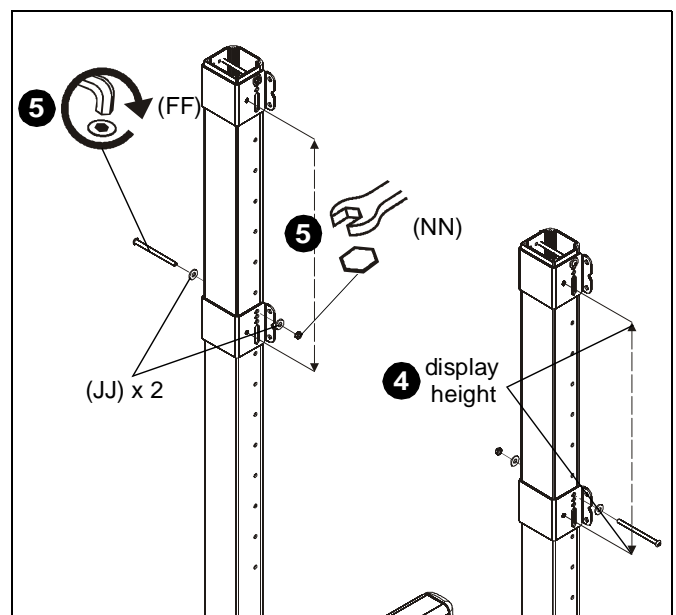

Figure 10
4. Measure one screen height down from center point on installed clamp brackets to determine mounting location of lower clamp brackets. (See Figure 10)
5. Use 5/16-18 x 4 1/2" button head cap screw (FF), two 5/16" washers (JJ) and 5/16-18" lock nut (NN) to install clamp brackets for lower displays with center diamond one screen height below center diamond of upper installed brackets. (See Figure 10)